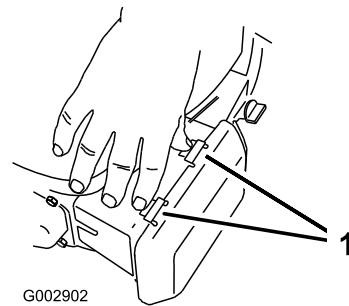

Figure 23
- Press down on the latch tabs on top of the air-cleaner cover (Figure 23).